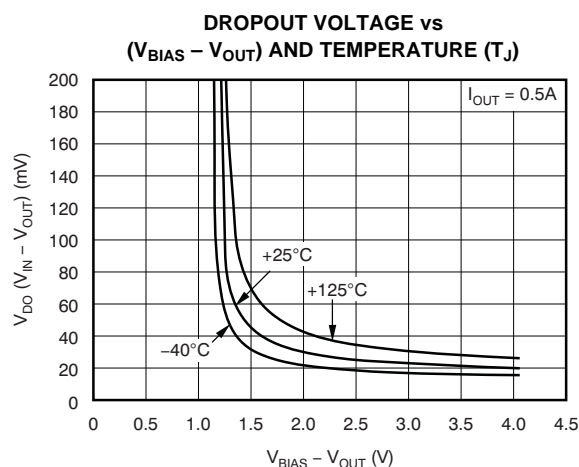

Figure 8.
(1) Adjustable devices tested at 0.8V; resistor tolerance is not taken into account.
(2) Dropout is defined as the voltage from V_{IN} to V_{OUT} when V_{OUT} is 3% below nominal.
(3) 1.62V is a test condition of this device and can be adjusted by referring to Figure 8.
(1) 1.62V is a test condition of this device and can be adjusted by referring to Figure 8.